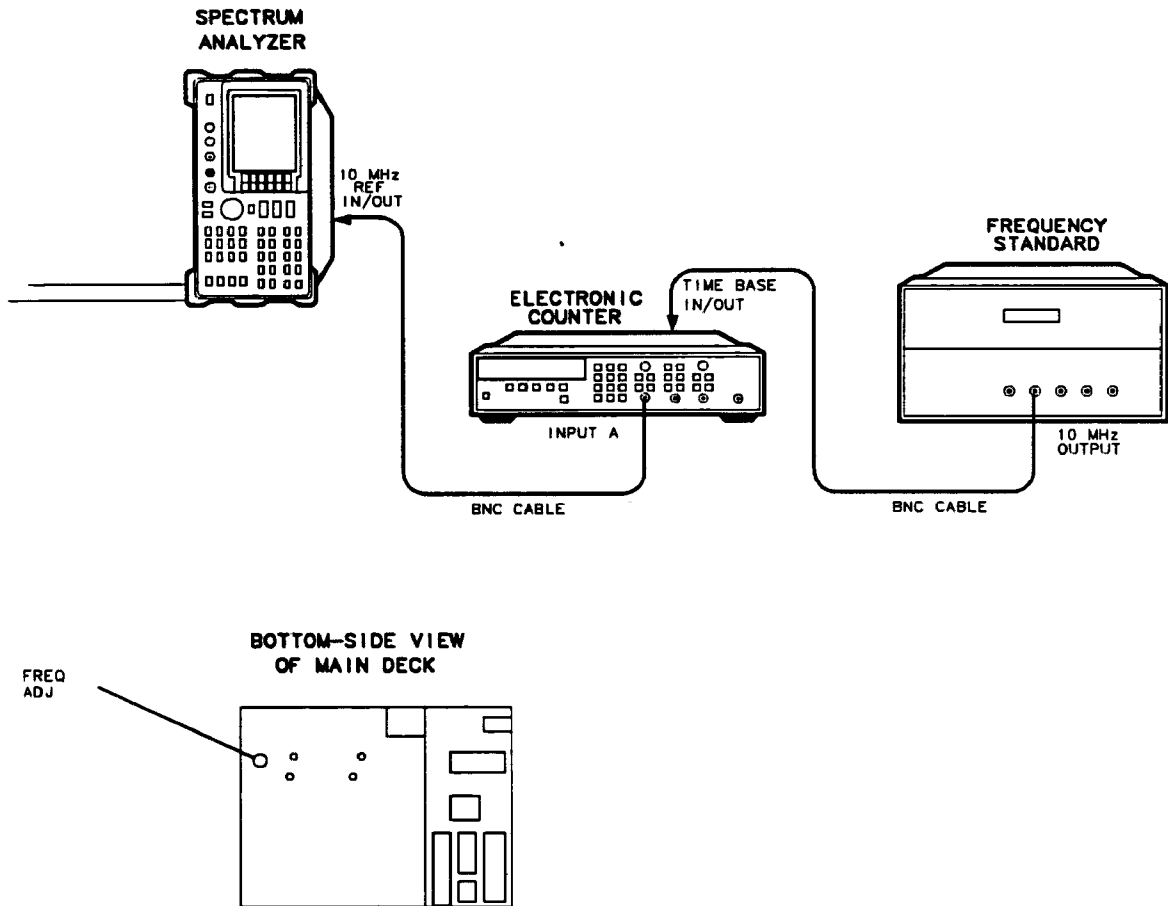

Figure 2-20. 10 MHz Reference Adjustment (Option 003) Setup
3. Connect the frequency standard to the frequency counter rear-panel TIMEBASE IN/OUT connector as shown in Figure 2-20.
7. Locate the **FREQ ADJ** control. This control is accessible through the center deck of the spectrum analyzer. See Figure 2-20. Remove the dust cap screw.